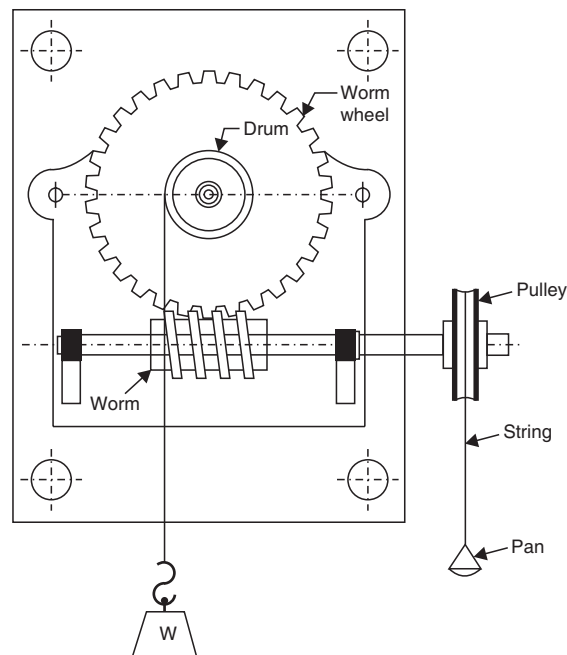

Fig. 7.1 Worm and worm wheel apparatus.
**Apparatus.** Worm and worm wheel apparatus (Fig. 7.1) weights, string, metre rod, outside calliper, pan etc.
3. Wrap another string round the pulley and attach a pan as shown in Fig. 7.1